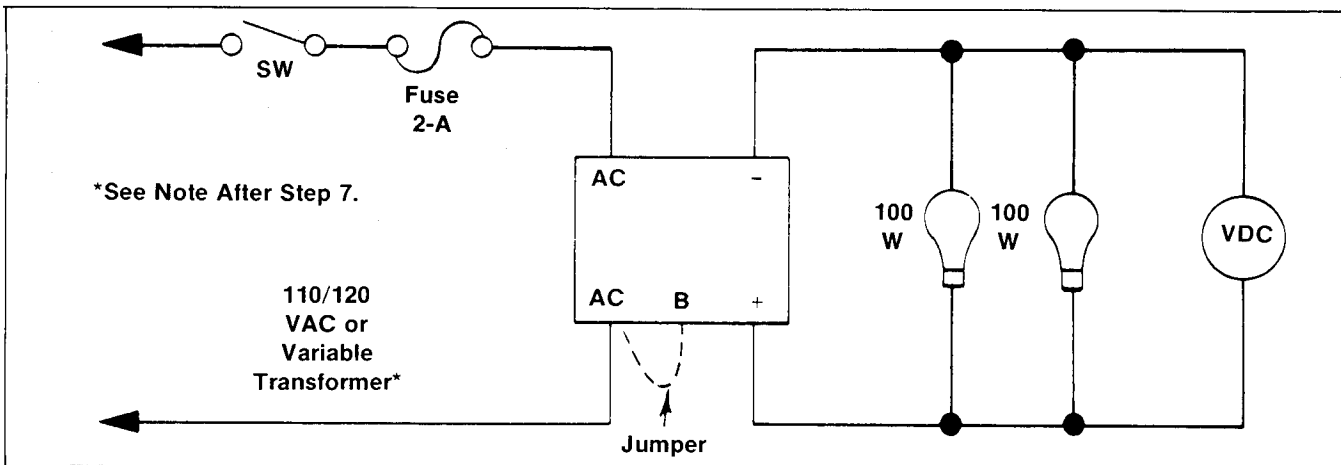

Figure 7-11. Wiring Diagram — Voltage Regulator Field Test
1. Connect two 100W light bulbs across “+” and “-” terminals of regulator. See Figure 7-11.
2. Set multimeter range to 100-Volts DC. Connect meter across light bulbs. Check for correct polarity (refer to Figure 7-11).
4. Connect one pole of (on-off) switch and the fuse to one of the “AC” terminals on the regulator. Connect other pole of switch to the 110/120-Volt AC source (Figure 7-11). Connect other “AC” terminal to 110/120-Volt AC source.